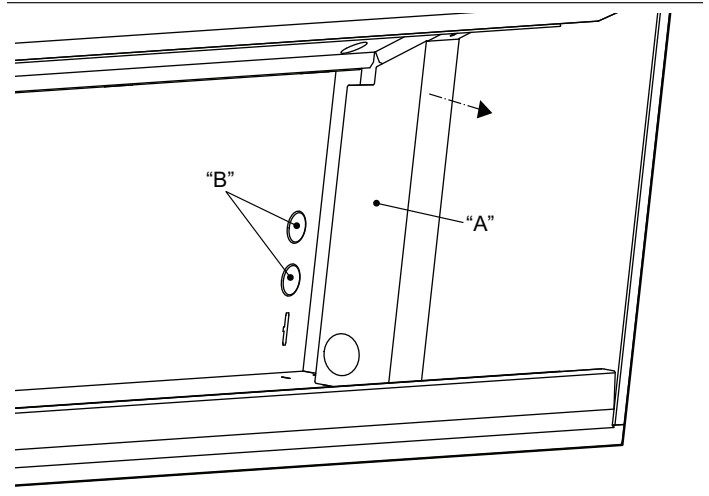

Figure 19: Junction Box Channel
1. Remove junction box channel covering the wires (*Figure 19*, "A").
2. Remove circular knockouts behind junction box channel (*Figure 19*, "B").